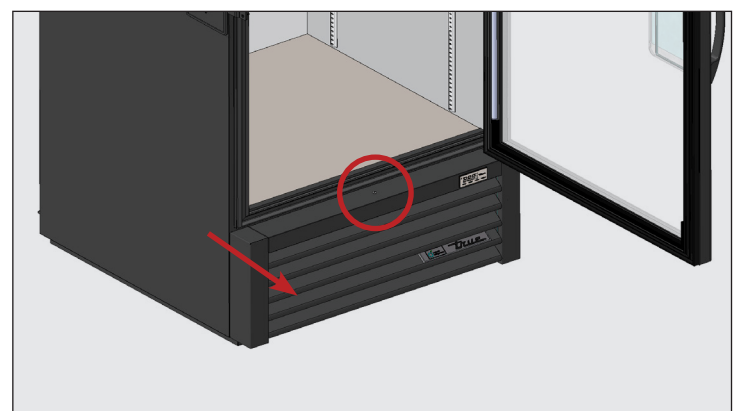

Fig. 3. Front louver grill screw location. Carefully remove the grill from the magnets.
5. Remove the front louver grill to access the shipping bolts. See fig. 3.